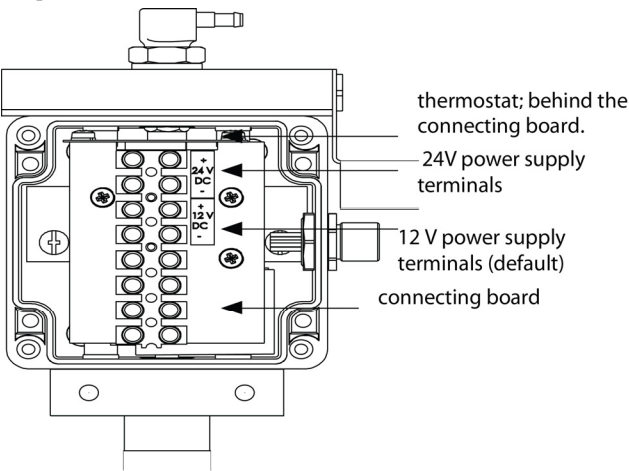

Figure 3 Connecting Board
- 2. Remove the connecting board (Figure 3) by unscrewing the 3 screws.